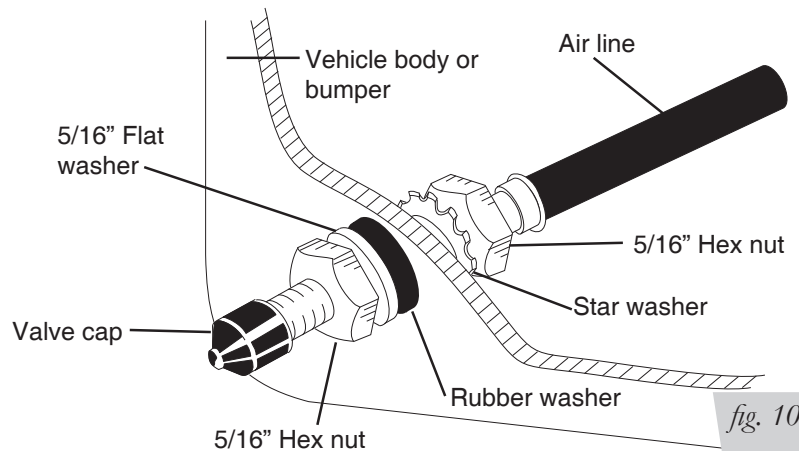

fig. 10
- Place a 5/16" nut and star washer on the air valve. Leave enough of the inflation valve in front of the nut to extend through the hole and have room for the rubber washer, flat washer, and 5/16" nut and cap. There should be enough valve exposed after installation—approximately 1/2"—to easily apply a pressure gauge or an air chuck (fig. 10).